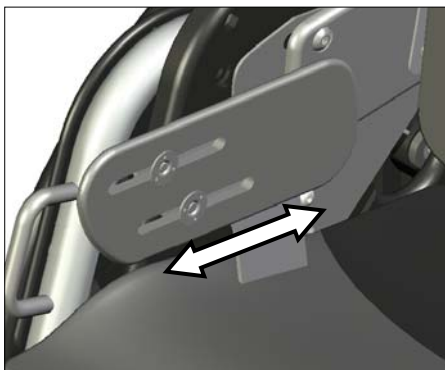

Figure 5: Lateral Plate adjustment
1. The position of the lateral support plate can be adjusted using a 5/32" hex driver (Fig. 5). Loosen bolts and adjust to desired position. Tighten bolts.